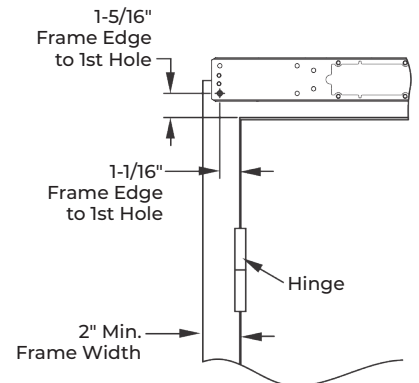

Fig. 2
2. Measure, mark, and drill the first mounting hole according to the template (available for download from www.nortonrixson.com). (Fig. 2)